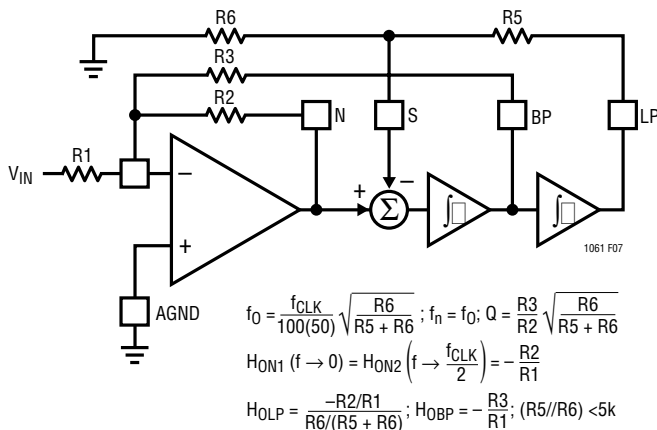
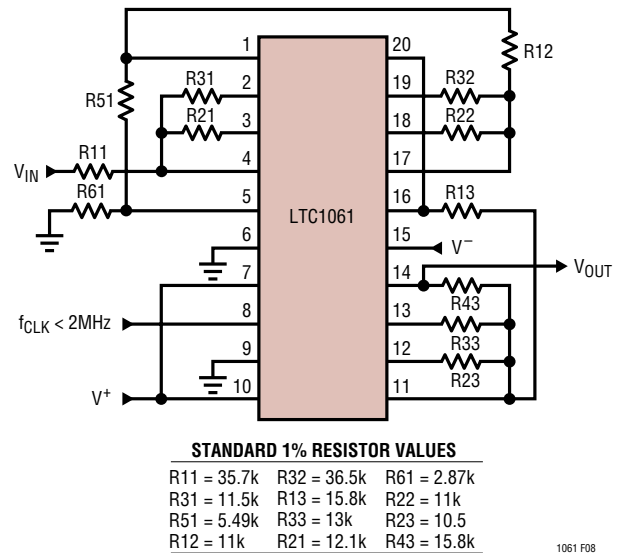

Figure 7. Mode 1b: 2nd Order Filter Providing Notch, Bandpass, Lowpass
Figure 8. 6th Order Chebyshev, Lowpass Filter Using 3 Different Modes of Operation for Speed Optimization
**2. Secondary Modes: Mode 1b** – It is derived from Mode 1. In Mode 1b, Figure 7, two additional resistors, R5 and R6, are added to attenuate the amount of voltage fed back from the lowpass output into the input of the  $S_A$  ( $S_B$ ) switched capacitor summer. This allows the filter clock-to-center frequency ratio to be adjusted beyond 50:1 (or 100:1). Mode 1b still maintains the speed advantages of Mode 1. Figure 8 shows the 3 lowpass sections of the LTC1061 in cascade resulting in a Chebyshev lowpass filter. The side A of the IC is connected in Mode 1b to provide the first resonant frequency below the cutoff frequency of the filter. The practical ripple, obtained by using a non-A version of the LTC1061 and 1% standard resistor values, was 0.15dB. For this 6th order lowpass,